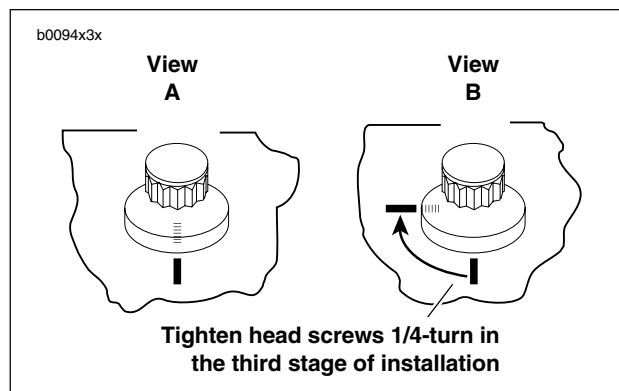

Figure 3-27. Tightening Head Screws
- c. See Figure 3-27. Mark cylinder head and head screw shoulder with a line as shown (View A). Tighten each screw a 1/4-turn (85°-90°) (View B).